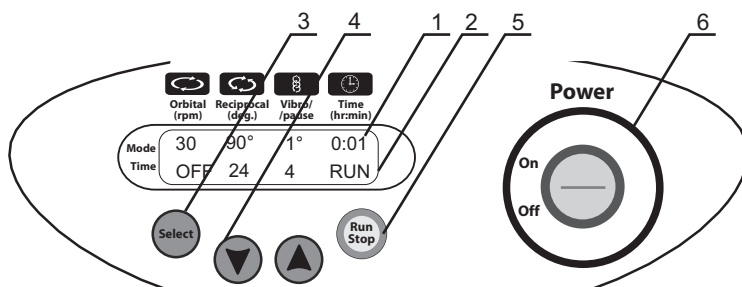

Fig.2. Front panel
- 4.1. Connect the external power supply to electric circuit and switch **On** the **Power** switch (Fig.2/6).
- 4.4. Press the **Run Stop** key (Fig.2/5) to start the program. The platform motion starts and the corresponding indication “RUN” (Fig.2/2) and the changing time values are shown on the display.
- 4.5. If the operation time is not set and the timer indicator (Fig.2/1) shows “OFF”, pressing the **Run Stop** key will cause the unit to operate continuously until the **Run Stop** key is pressed again.
- 5.1. Press the **Select** key (Fig.2/3) to choose the parameter to change (each pressing of the **Select** key consecutively activates the parameters). The active parameter is flashing. Use the **▲** and **▼** keys (Fig.2/4) to set the necessary value (note: pressing the key for more than 2 s will increase the values change speed).